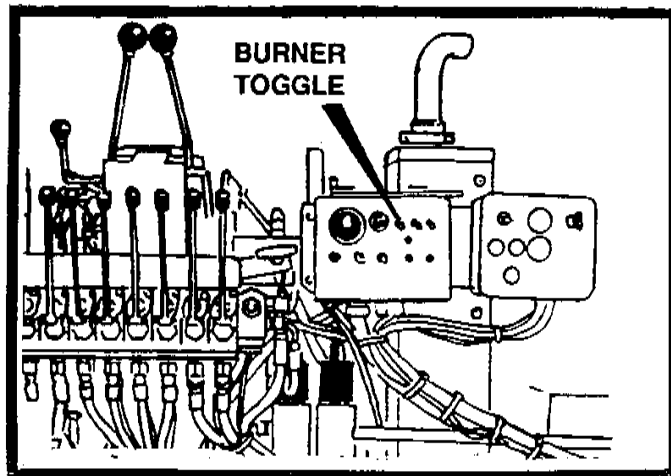

FIGURE 10
2. Flip burner toggle to the on position. This allows flow of propane to the valves. See figure 10.
5. After screed has heated for about 10 minutes turn the burners off. Do this by turning burner toggle on dash to off position. See figure 10.